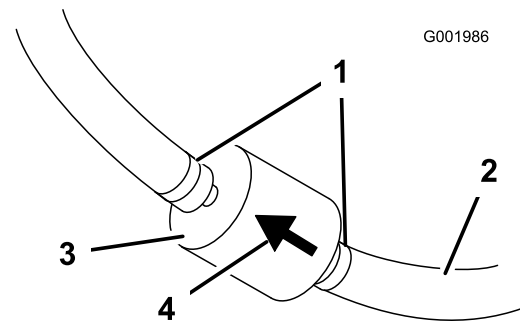

Figure 55
5. Squeeze the ends of the hose clamps together and slide them away from the filter (Figure 55).